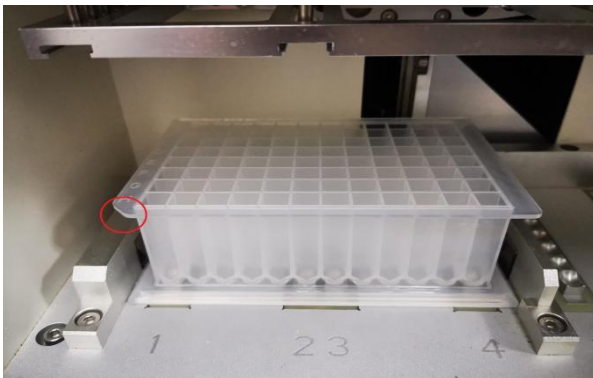
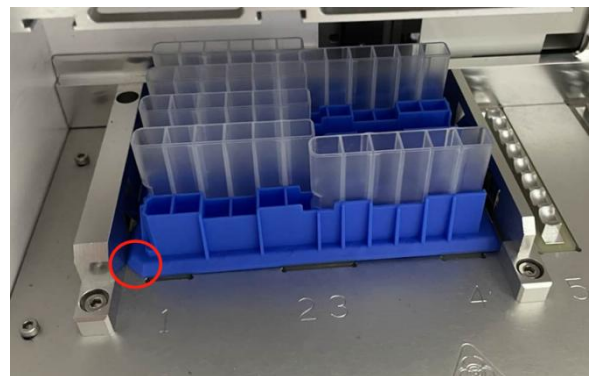

Figure 11. 96-deep well plate
Figure 12. Put the single kit docking into the instrument
**⚠ Note:** As shown in Figure 11 and Figure 12, the user should ensure that the 96-deep well plate and the single kit docking is properly positioned with the notch facing outward.